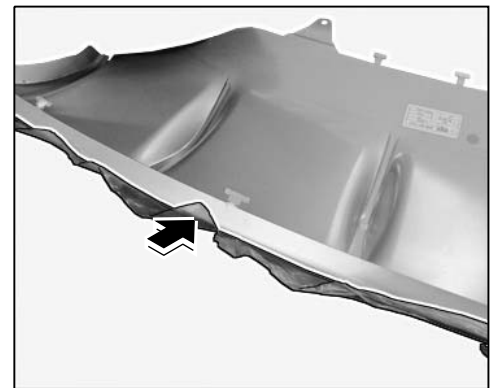

Figure 2
- 3.3 Pull film off the edges of the stainless steel rear panel ⇒ *Figure 2 -Arrow-*.